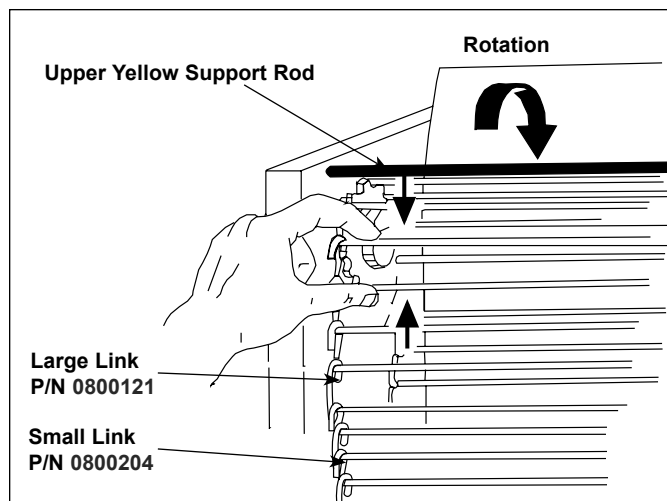

Figure 9. Removing Conveyor Belt Chain
1. Remove acorn nuts (Figure 9).